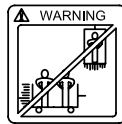

figure 3
8. Never use the winch for lifting. Never lift heavy stuffs to pass over people's head(see figure 3).